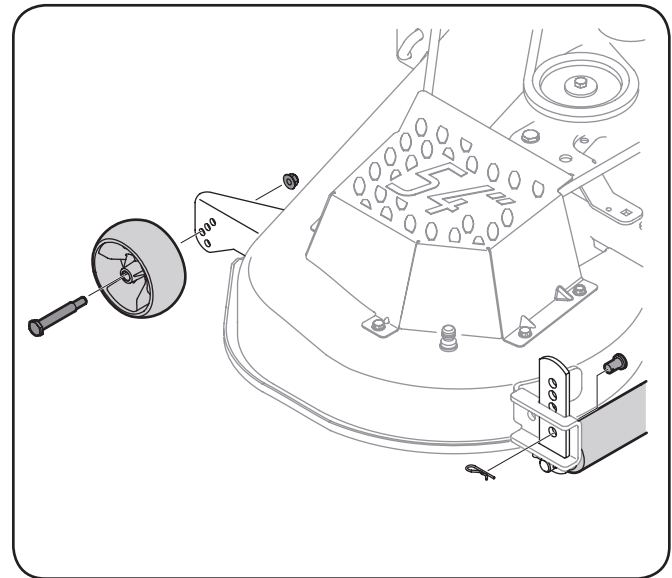

Figure 3-4
- b. Remove the front gauge wheels by removing the lock nuts and shoulder screws which secure them to the deck. See Figure 3-4.
- e. If equipped, remove the clevis pins and hairpin clips from the deck roller brackets on the left and right sides of the cutting deck. See Figure 3-4.